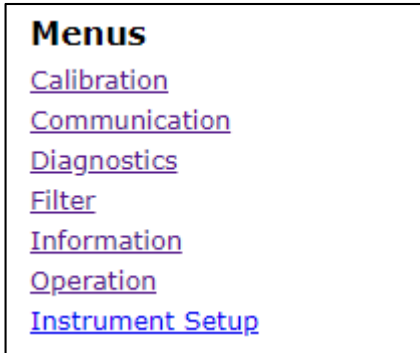

Figure 4-1. Embedded Webserver Home Page
8. Open a web browser on the computer, enter the static IP address of the HI 6200 instrument (the IP address you just set), and press the Enter key. The Home page appears (see Figure 4-1).
1. Open a web browser on the computer, enter the static IP address of the HI 6200 instrument that you set in a previous step and press the Enter key. The Home page appears (see Figure 4-1 on page 32).
1. Open a web browser on the computer, enter the static IP address of the HI 6200 instrument (192.168.000.100), and press the Enter key. The Home page appears (see Figure 4-1 on page 32).